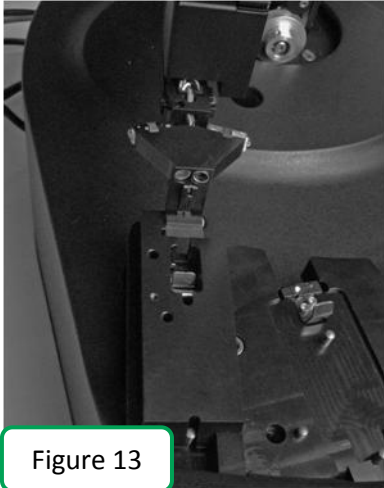

Figure 13
**Stage One** is aligning the gripper with the cassettes as shown in Figure 13 and 14. This ensures that the gripper arm can remove and return slides to the slide cassettes..